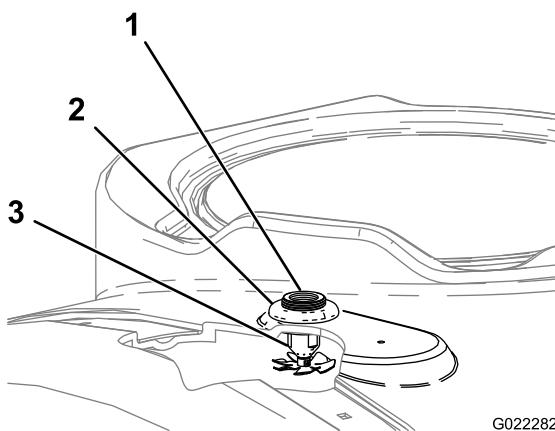

Figure 6
2. Install the nozzle assemblies up through the drilled holes (Figure 6).
3. Install the plastic flange nut over the exposed threads of the bulkhead on top of the tank (Figure 6). Ensure that the seal is seated correctly between the bulkhead fitting and the underside of the tank.